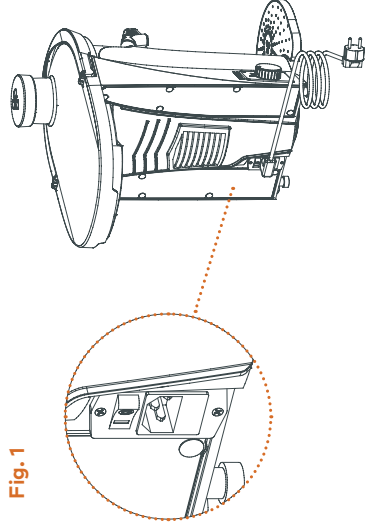
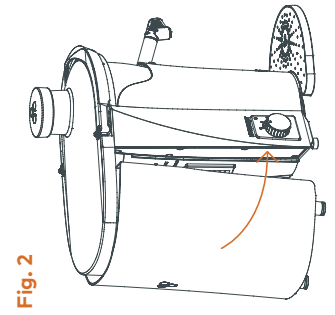

Fig. 1
Fig. 2
- 2 Connect the supplied cord to the appliance and plug into a standardised earthed socket. **Fig.1**
- 3 Place the peel bucket as shown in **Fig.2**. To keep the peel bucket from getting dirty, you can line it with a bin bag, leaving the top of the bag hanging over the edges of the container.
- 1 Switch the machine on by putting the rear power switch on "1" (Fig 1). Place the waste bucket in the correct position, next to the rear of the machine. Take care! If your machine works at 115V and the LED flashes, the container has been placed incorrectly. Return to the "0" position and place the waste container on the rear wall of the blender. If the flashing continues, please get in contact with Technical Support (Fig 2).